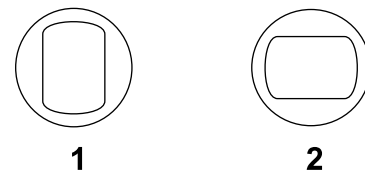

Figure 15
3. Using a wrench, turn the bypass valve on the left and right transaxles so that the flat sides of the valve face left and right (Tow position) as shown in Figure 14 and Figure 15.
5. After repairing the machine, turn the bypass valves so that the flat sides face up and down (Drive position) as shown in Figure 15.